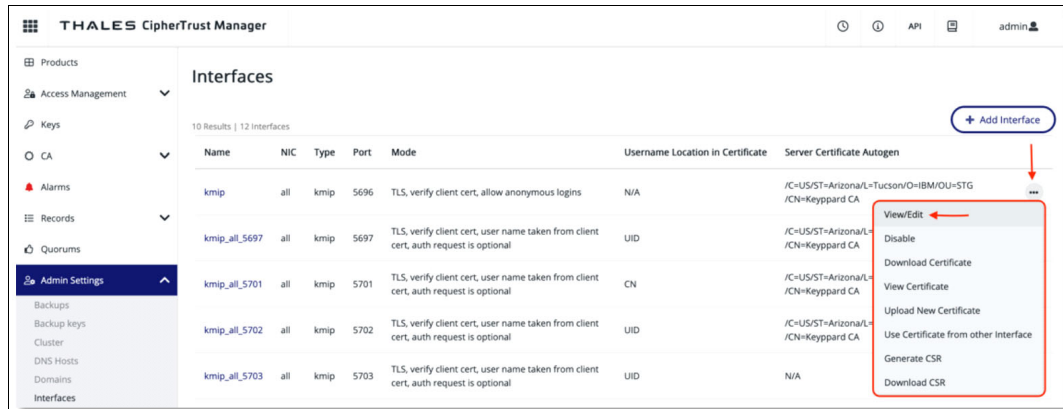

Figure J-26 Interface settings
- a. Access the configuration details shown in Figure J-26 on page 1041.